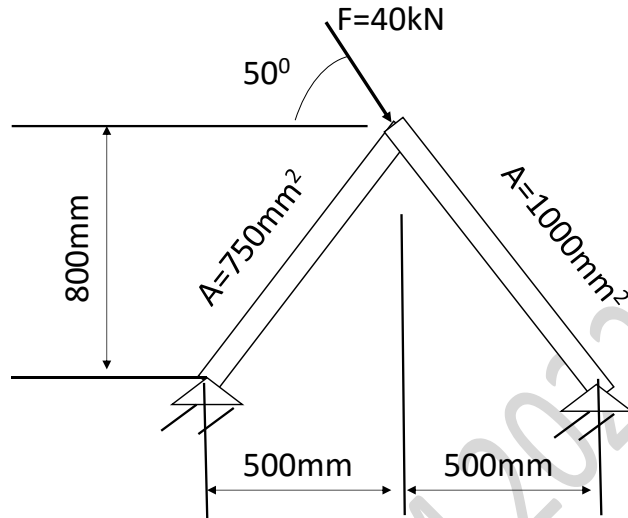

Fig. 4a
- 4 a) For the two element truss member shown in Fig. 4a, determine the nodal displacements and hence strains and stresses in the members. The material of the trusses is Aluminium with an elastic modulus of 80 GPa. 15